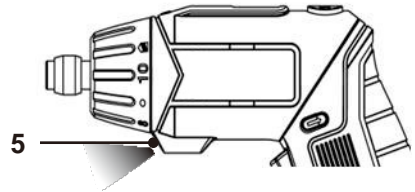

Fig. 12
The work light (5) will automatically illuminate by pressing the on/off switch(2) (Fig.12).